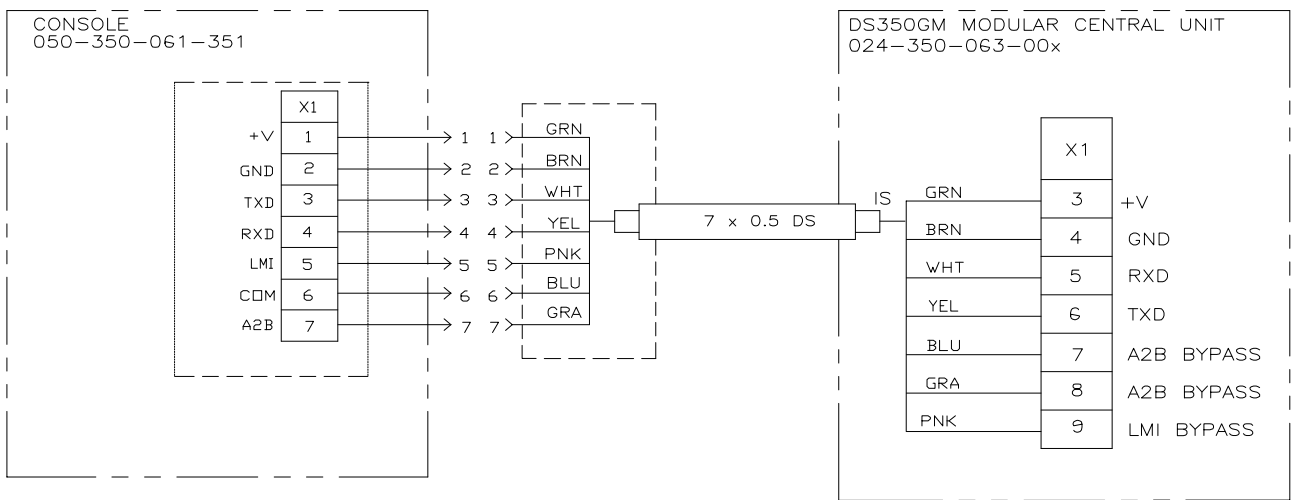

Fig. 6
3. Wire the console cable assembly in central unit referencing the diagram. (Fig. 6)